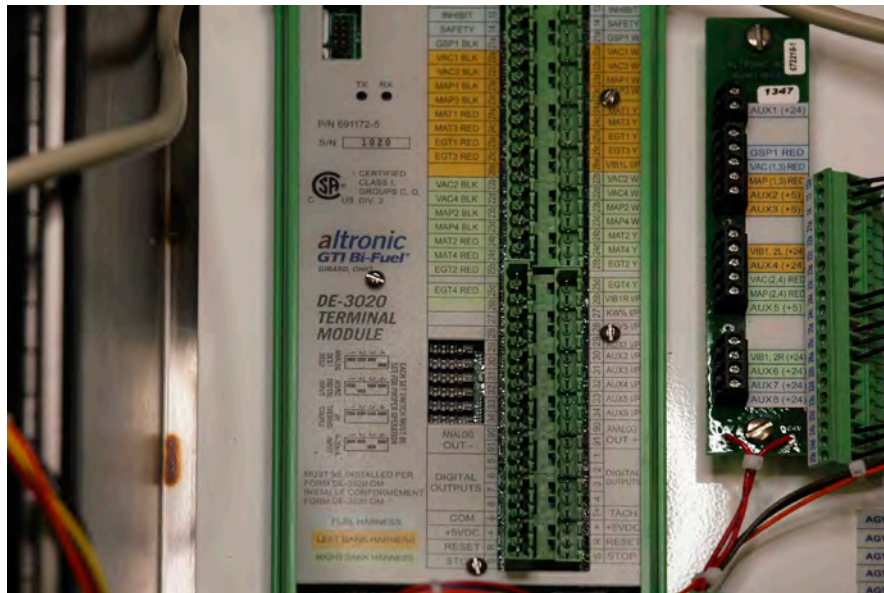

Figure 2
4. Remove the four round head screws securing the Lexan label to the terminal board (figure 2).